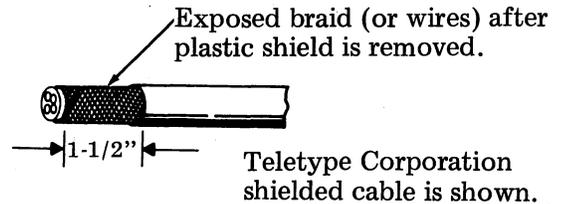

Fig. 25
- ① Use cutting pliers (or small knife) to remove plastic outer shield 1-1/2 inches from end (measure with ruler). See Fig. 25.